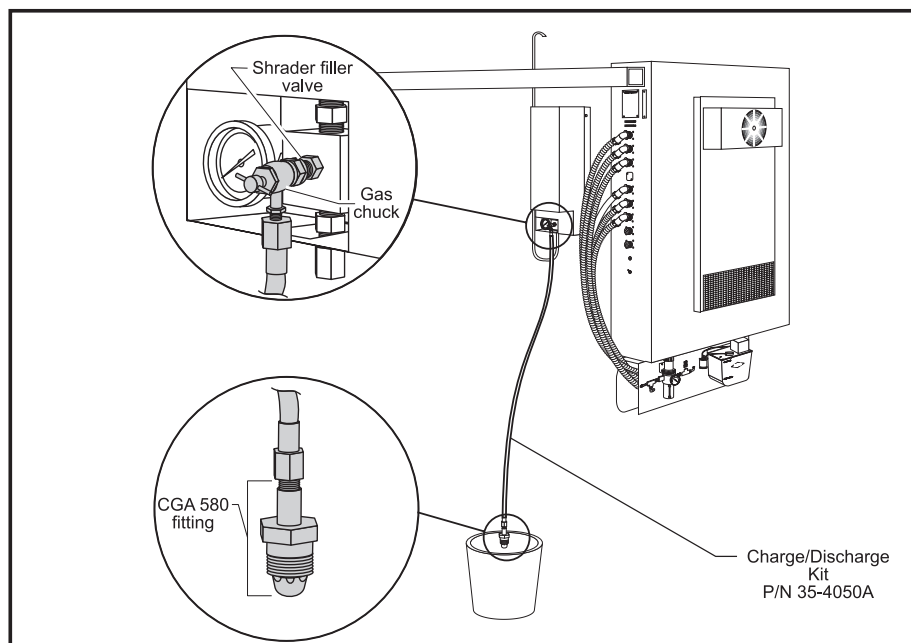

Figure 3.14-1 Hydraulic counterbalance charge/discharge kit (shown in place to discharge system).
4. Ensure T-handle of the gas chuck is turned completely counterclockwise. Attach charge/discharge kit by tightening gas chuck to the Schrader valve finger tight, then wrench lightly to tighten (see Figure 3.14-1).